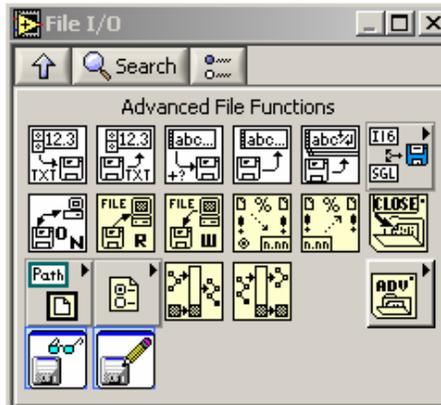

Figure 6.3: Available File I/O Functions/SubVIs
- a. Many different file operations are available. Figure 6.3 below shows a few of the available functions/subVIs as more advanced ones are also available.